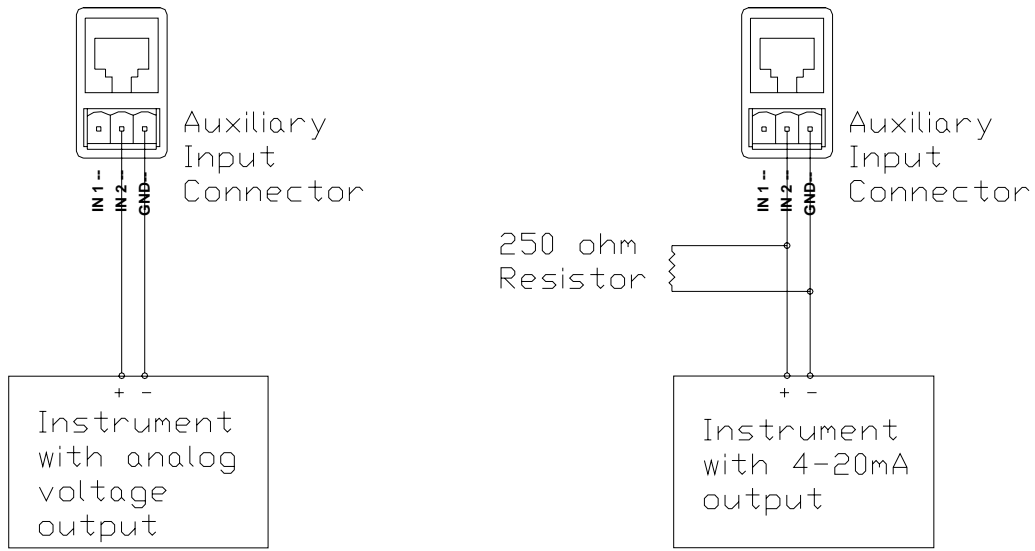

Figure 8-2 Analog Instrument Connection
1. Connect the instrument to Auxiliary Input #2 using the 3-pole YSI 065942UL Pluggable Socket Connector. See Figure 8-2.
3. For a 4–20mA input, connect a 250 Ω resistor between the ground (GND) and positive In 2 terminals. See Figure 8-2.